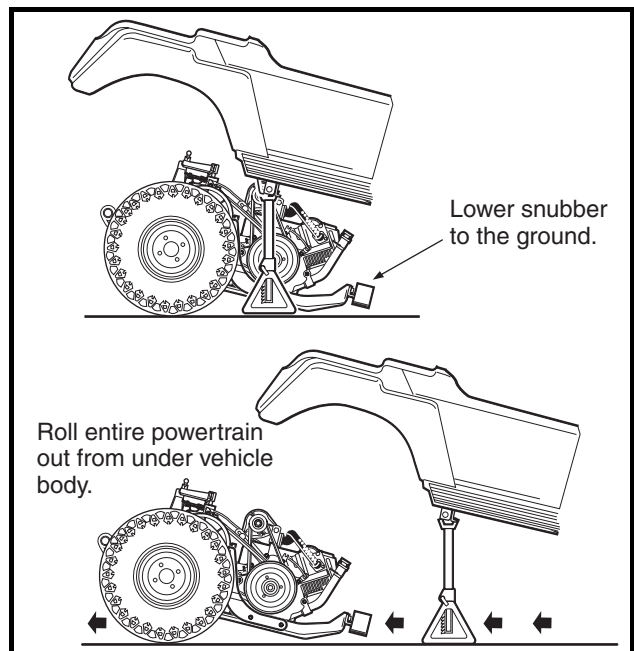

Figure 16-27 Remove Powertrain
14. Grasp the ends of the leaf springs at the rear of the vehicle and roll the powertrain out from under the vehicle (**Figure 16-27, Page 16-11**).